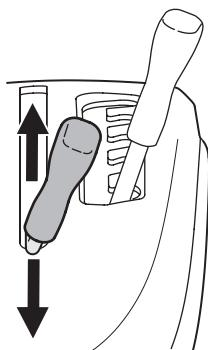

Figure 17
- Push the PTO (Blade Engage) Lever forward into the engaged (ON) position. See Figure 17.